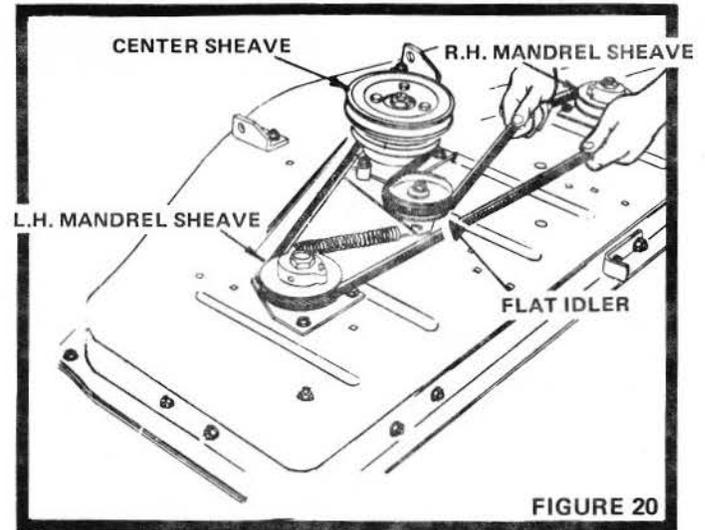

FIGURE 20
9. Install new belt in groove of L.H. Mandrel Sheave lower groove of Center Mandrel Sheave and around Flat Idler. From a position at discharge end of mower, grasp rear-most strand of belt in left hand and pull belt coming from idler with right hand until it will go into groove of R.H. Mandrel Sheave (Fig. 20).